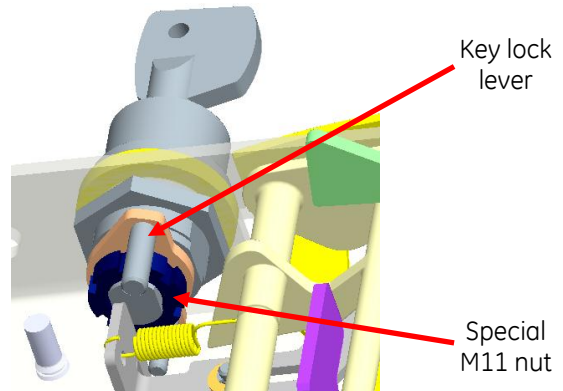

Figure 5
- Assemble the key lock lever and special M11 nut on to the lock body (orient on the lever as shown on Fig. 5.).